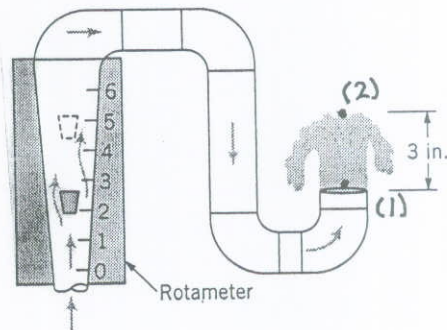

FIGURE P8.125
8.125 The scale reading on the rotameter shown in Fig. P8.125 and Video V8.14 (also see Fig. 8.46) is directly proportional to the volumetric flowrate. With a scale reading of 2.6 the water bubbles up approximately 3 in. How far will it bubble up if the scale reading is 5.0?